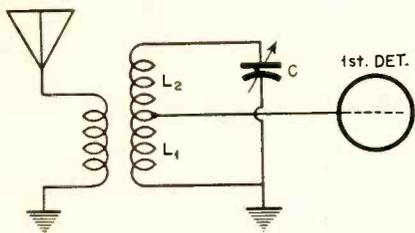
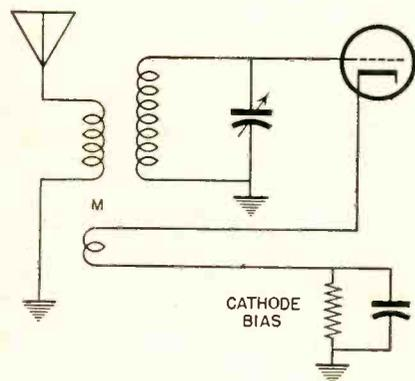
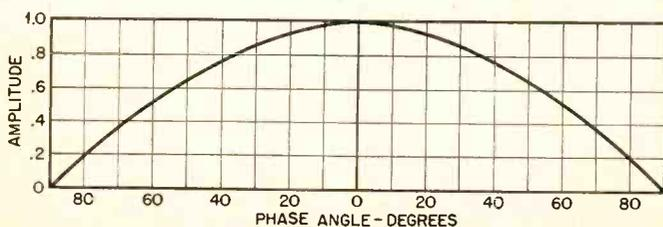

Figure 4
Figure 5
Figure 6
One of these is illustrated in *Fig. 4*. In this circuit the first detector grid is
*Fig. 5* illustrates another image suppression circuit which has been quite popular. In general, this circuit is not as effective as the circuit of *Fig. 4*. In this arrangement the signal frequency, the oscillator frequency, and the image frequency appear in the feedback cathode circuit coil, and are fed back into the antenna circuit. The voltage transferred to the antenna primary will be greater for the higher frequencies than for the lower signal frequency. Consequently more of the image frequency will be fed back than signal frequency. All the voltages thus fed back are phased so that they will subtract from the voltage induced in the antenna. As a result, there is some reduction of signal voltage which will reduce the signal to first circuit noise ratio. This did not occur in the arrangement of *Fig. 4*, where signal and thermal noise are reduced in like amount and their ratio is unaffected. Probably the greatest disadvantage of the circuit of *Fig. 5* lies in the practical difficulty of adjusting the circuit constants to function properly over the whole tuning band. This results partly from the fact that the selectivity of the antenna tuned circuit decreases as the frequency increases and partly from the fact that the phase angle of the tuned circuit varies more rapidly than the attenuation. This is illustrated by *Fig. 6*.
From Fig. 6 it will be noted that
when the phase angle is 45° the signal amplitude is still seven-tenths that at resonance. This illustrates the practical difficulties of keeping the circuits of Fig. 5 properly phased over a wide frequency band without manual adjustment.